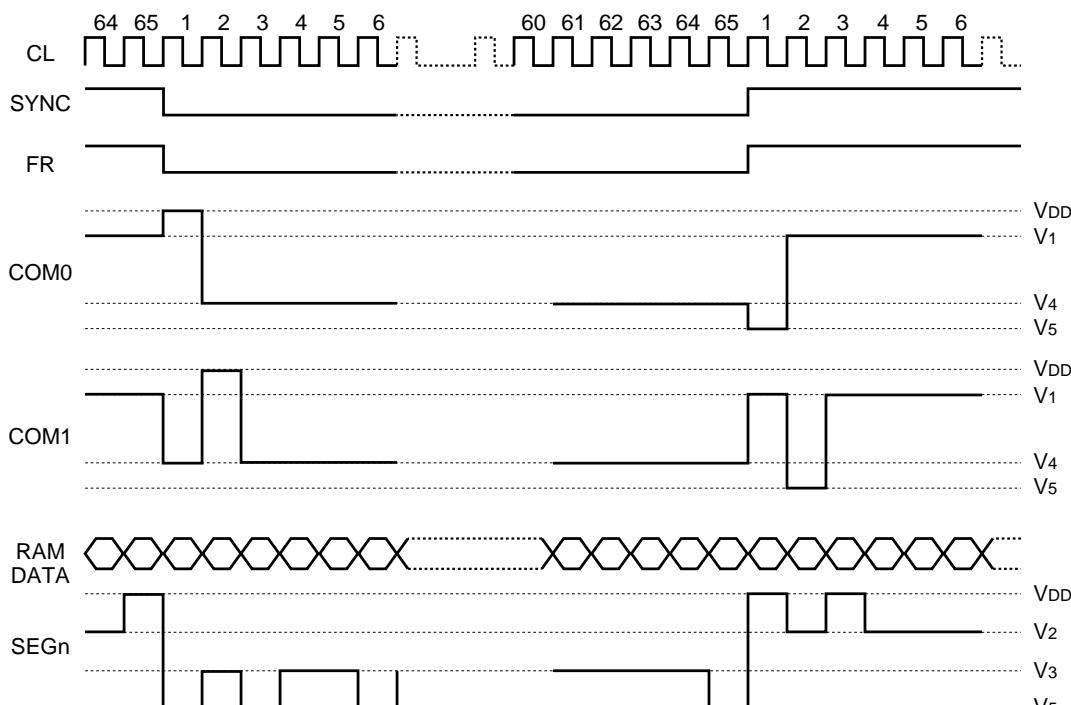

Fig. 5
The circuit also generates the internal common timing, liquid crystal alternating current signal (FR), and synchronous signal (SYNC) from the display clocks. As shown in Fig. 5 and 6, the FR normally generates the drive waveforms in the 2-frame alternating current drive system to the liquid crystal drive circuit. It can generate n-line reversal alternating current drive waveforms by setting data (n-1) to the n-line reversal drive register. If a display quality problem such as crosstalk occurs, it can be improved by using the n-line reversal alternating current drive waveforms. Determine the number of lines (n) to which alternating current is applied by actually displaying the liquid crystal.